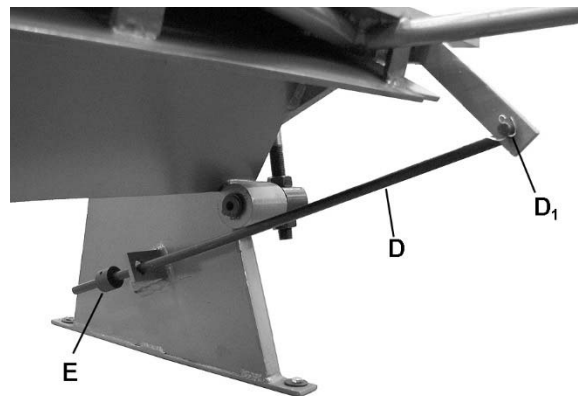

Figure 3
- 5. Install stop rod (D) through hole in weldment, as shown in Figure 3. Insert cotter pin (D₁) at end of rod, and bend the ends to secure. Install stop collar (E) at opposite end and tighten set screw.
Adjust stop collar on stop rod (Figure 3) to limit apron swing.